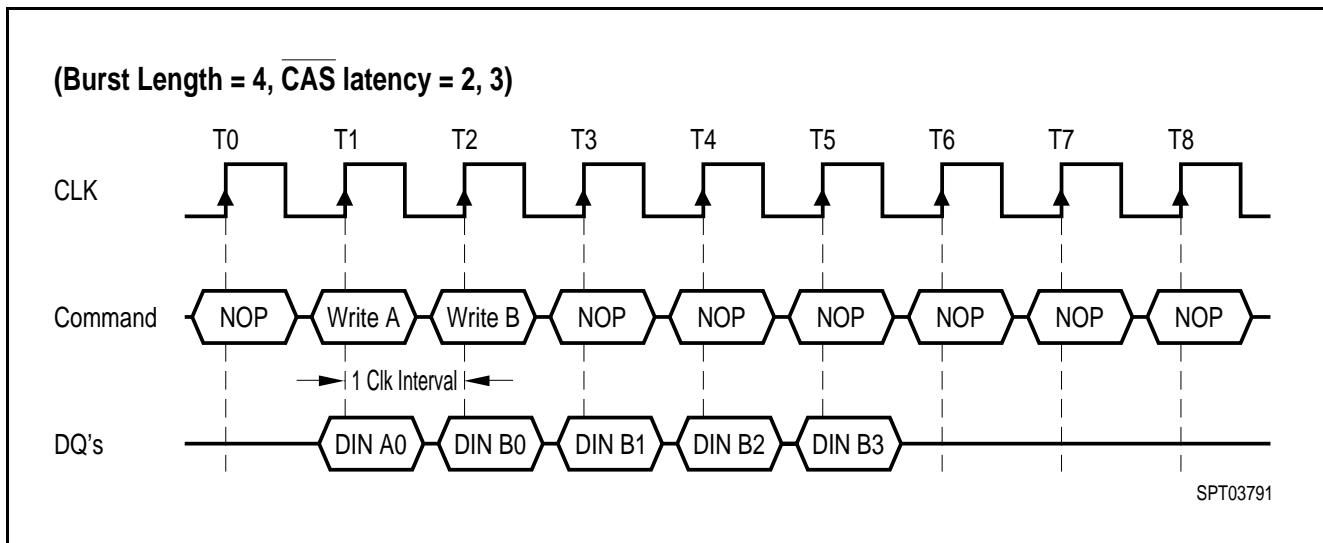

Figure 12 Write Interrupted by a Write
- Figure 12 Write Interrupted by a Write